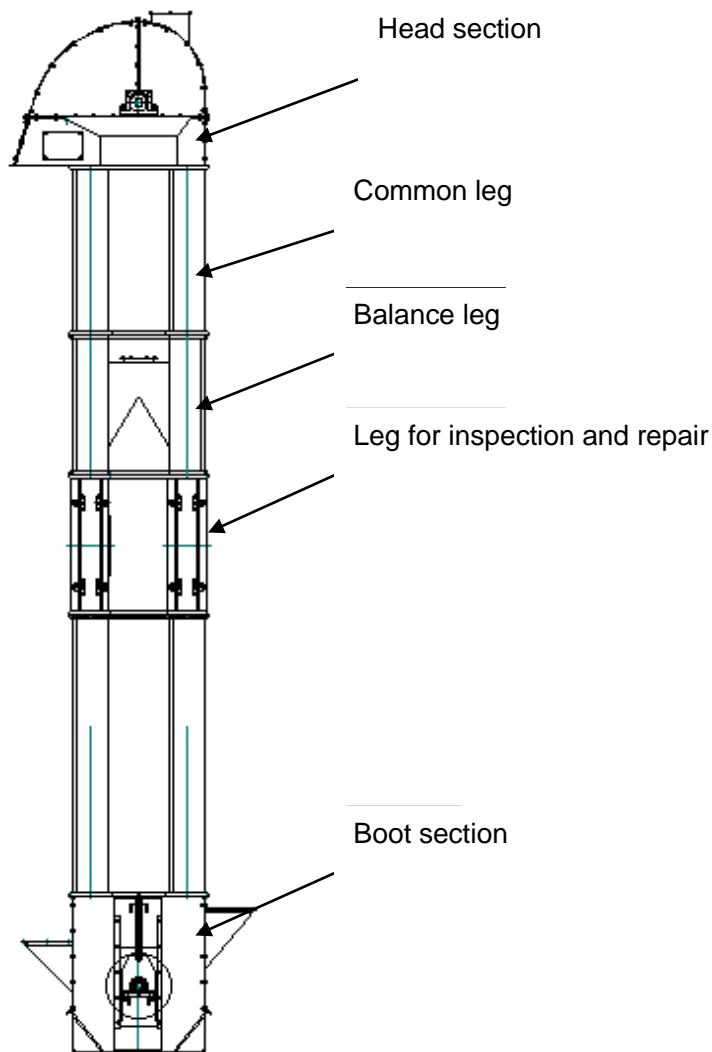

Fig. 1 Schematic diagram of bucket elevator
4.2.2 Overall structure (see Fig. 1)